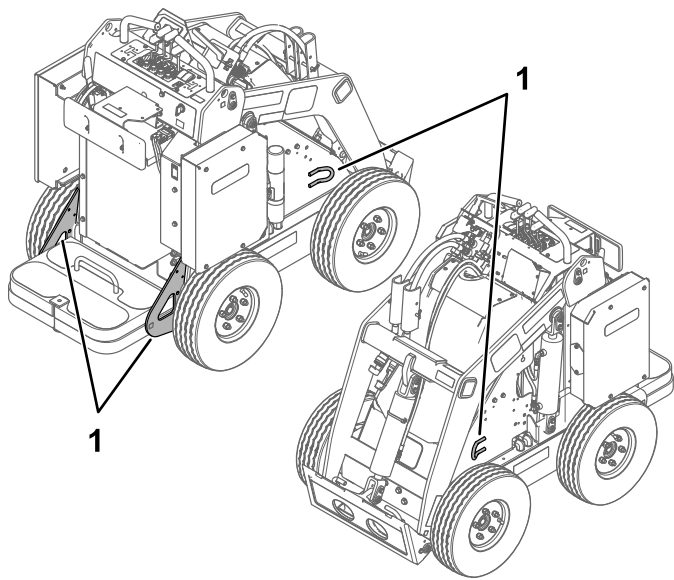

Figure 19
8. Use the metal tie-down loops on the machine to securely fasten the machine to the trailer or truck with straps, chains, cable, or ropes (Figure 19). Refer to local regulations for tie-down requirements.
Lift the machine using the lift points (Figure 19).